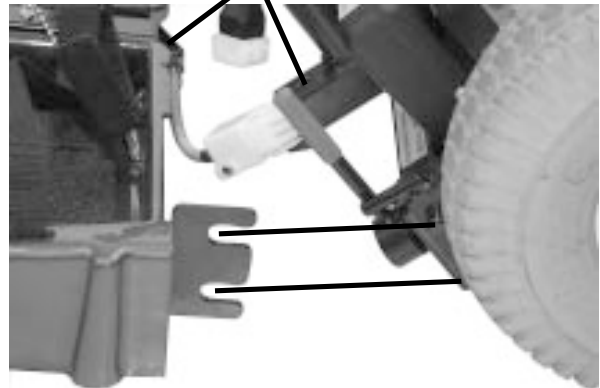

FIGURE 17. FRAME LOCK
3. Align the lower slots on the rear of the front section to the corresponding pegs on the front of the rear section. See figure 17.